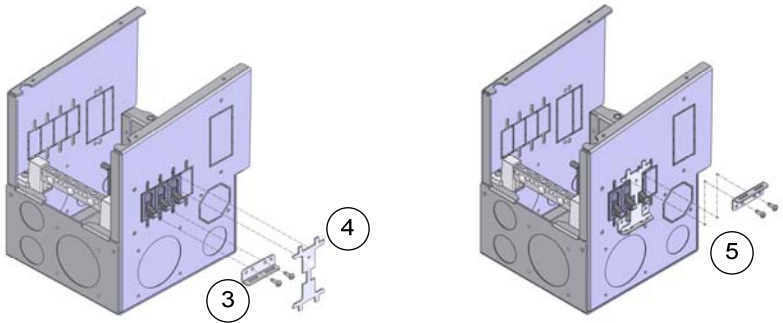

Figure 2 Installing the Breakers and Mechanical Interlock
3. Place the lowermost of the two Interlock L-Brackets over the breaker faces on the outside of the FLEXware 250 enclosure. Secure into place with the hardware provided. (See the circled Step 3 in Figure 2, below.)
4. Fit the Interlock Slide Plate into place over the breakers and into the two slots on the L-Bracket. (See the circled Step 4 in Figure 2, below.)
5. Insert the upper L-Bracket behind the Slide Plate and insert the tabs on the plate into the slots on the bracket. (See the circled Step 5 in Figure 2, below.)